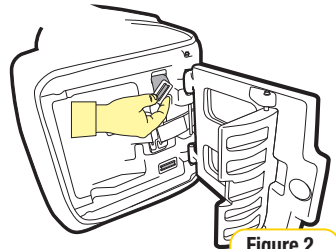

Figure 2
- Step 3:** Pass the three bar slide located below the thigh harness slots on the end of each body/shoulder straps through the thigh harness slots. Each side of harness is now removed. (see Figure 2).